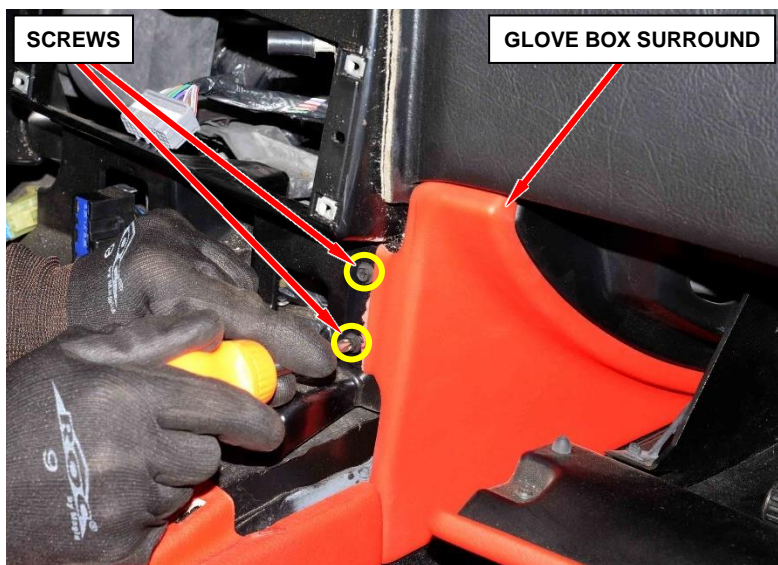

Figure 18 – Glove Box Surround Screws
36. Open the glove box then remove the two screws securing the left side glove box surround to the instrument panel (Figure 18).
47. Install the two screws securing the left side glove box surround to the instrument panel then close the glove box door (Figure 18).